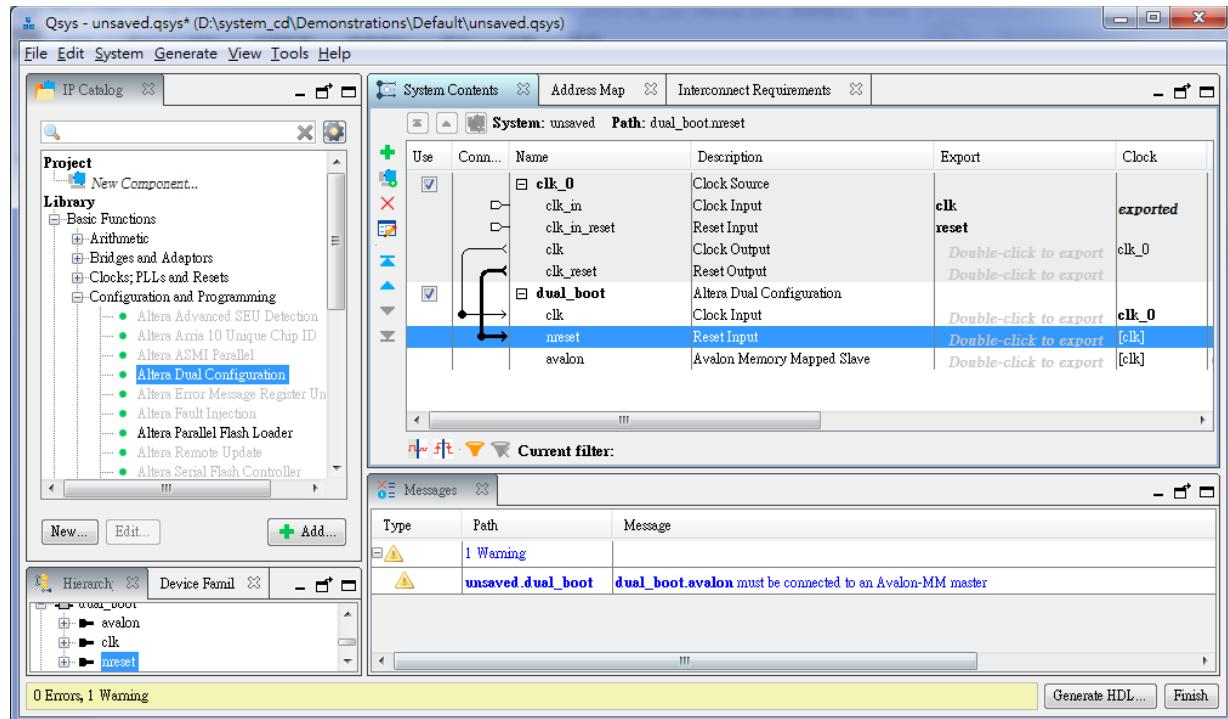

Figure 6-7 Rename and connect dual boot IP OK
3. Click **Finish** to close the wizard and return to the Qsys window. Choose **dual_boot_0** and click right key to select **Rename** it to **dual_boot**, and connect the **clk** and **nreset** to **clk_0.clk** and **clk_0.clk_reset** as shown in **Figure 6-7**.